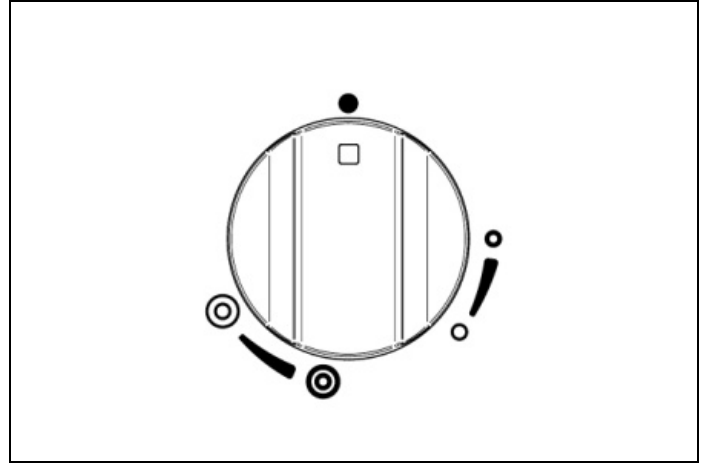
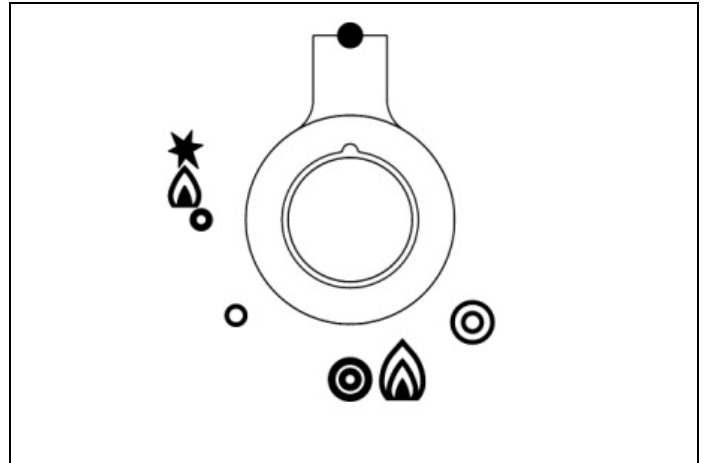

Fig. 18
Fig. 19
- To light the central burner, press the control knob (Fig. 18 e Fig. 19) and turn it counterclockwise to the single ring shown in bold.